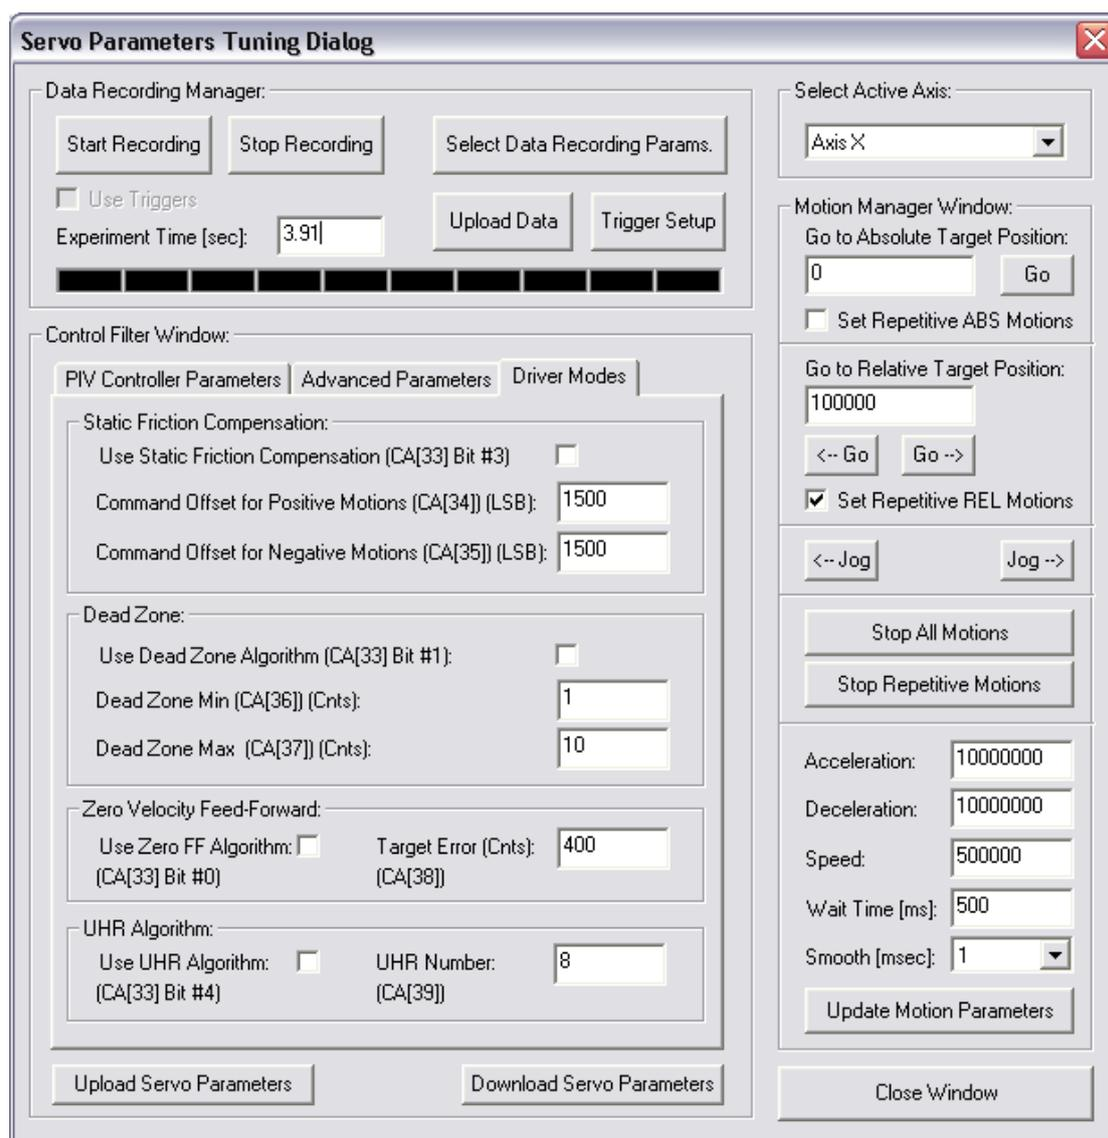

Figure 17: Defining “Driver Modes” for AB5 Driver
1. Clear the following check boxes in the “Servo Parameters Tuning Dialog” dialog box, see Figure 17: